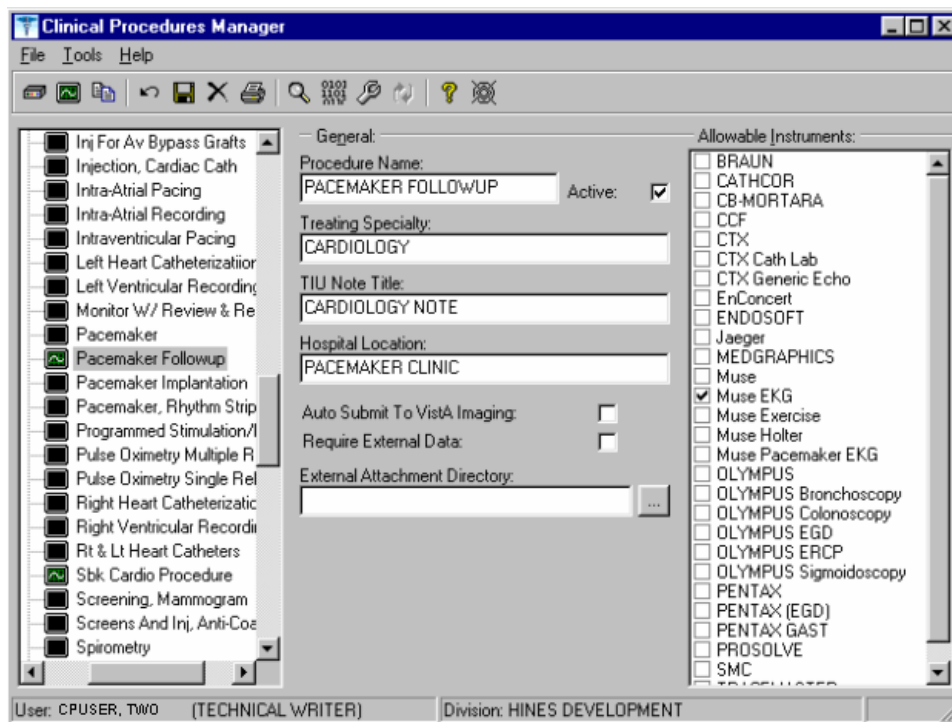

Figure 6-9
3. Click **OK**. The Edit screen is displayed. Figure 6-9 is the edit screen for procedures. The Procedure Name that you just entered is displayed in the left side of the CP Manager window in the Unassigned folder.